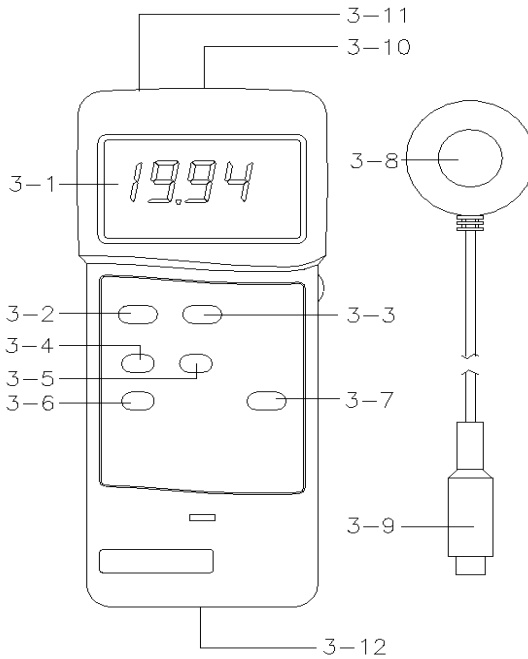

Fig. 1
- 1) Push the " Power Off/On Button " (3-2, Fig. 1) to switch the instrument on.
- 2) Select the max. range using the " Range Switch " (3-7, Fig. 1).
Set " Range Switch " (3-7, Fig. 1) to " 199.9 uW/cm² ".
- * Reverse and blank the " UV Sensor " (3-8, Fig. 1) by desktop or any other flat surface.
- * Push the " Zero Button " (3-6, Fig. 1), then display will show zero values.
- 4) Position the " UV Sensor " (3-8, Fig. 1) directly under the light source. The meter will show the UV value.
- * During measurement, pushing the " Data Hold Button " (3-3, Fig. 1) will hold the display values & the LCD will show the " D.H " symbol.
- * The DATA RECORD function displays the maximum and minimum readings. To start the DATA RECORD function, press the " Record Button " (3-4, Fig. 1) once. "REC" marker will appear on the LCD display.
- a) Push the " Recall Button " (3-5, Fig. 1) once, then the " Max " symbol with the maximum values recorded will appear on the LCD display.
- c) To de-activate the Data Record function, Press the " Record Button " (3-4, Fig. 1) once again. All associated display indicator (REC, Max, Min) will disappear from the display.
To de-activate this feature, Select the memory record function during measurement, by pressing the " Record Button " (3-4, Fig.1).
The instrument features an RS232 output via 3.5 mm " Phone Jack " (3-11, Fig. 1).
- 2) Slide the " Battery Cover " (3-12, Fig. 1) away from the instrument and remove the battery.